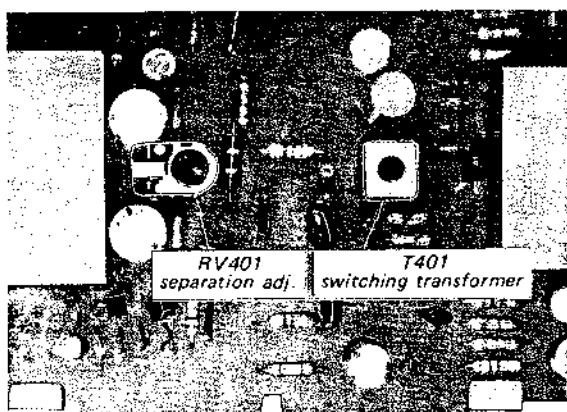

Fig. 3-7. Adjustment parts location
- Precisely tune the set to the carrier frequency of stereo signal generator, then turn the top core of switching transformer T401 (see Fig. 3-7) to obtain maximum output at the left channel. Note that this adjustment has a close relationship with stereo distortion.
- The output-level to residual-level ratio represents the separation. Adjust separation adj. control RV401 (see Fig. 3-7) for minimum residual level. Check the right channel for separation. Usually, about an 8 to 9 dB difference in channel separation exists. Readjust RV401 for minimum difference between left- and right-channel separation. While doing this, remember that the output level also changes according to the setting of RV401.